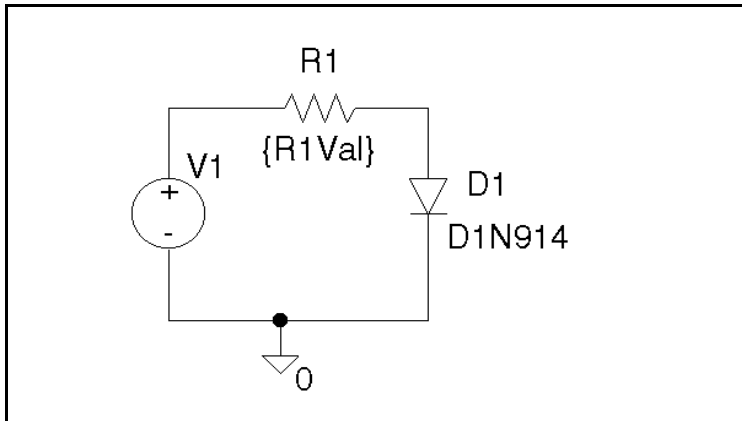

Figure 2 *Diode biasing design example.*
Assume that you want to design a circuit that drives a current of 1mA ( $\pm 5 \mu\text{A}$ ) through a diode (D1N914) using a 5V voltage source and a series resistor to control the current through the diode. A circuit such as this is shown in Figure 2.
**Note** When you initially place resistor R1, its value is 1 k. Later, when you set up the optimization, you will parameterize R1's value as shown in Figure 2.
7 From the Place menu, choose Wire to connect the parts as shown in Figure 2.